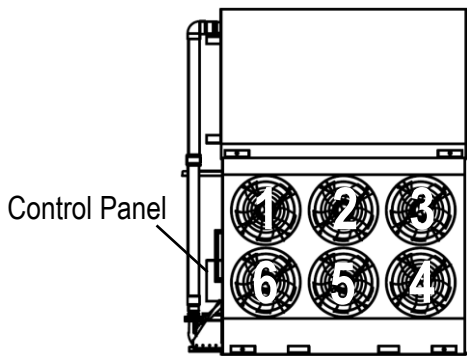
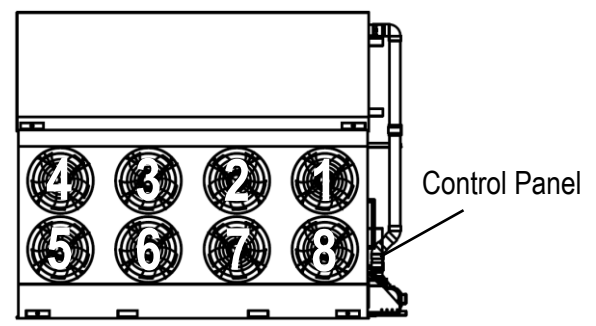

Figure 69. Right Hand 12' Long Unit Fan Addresses
Figure 72. Left Hand 18' Long Unit Fan Addresses
- Refer to **Figure 69** through **Figure 72** to determine fan address number assignment.
4. Change value Current addr to 247 and change value New addr to the appropriate fan address number assignment shown in **Figure 69** through **Figure 72**.